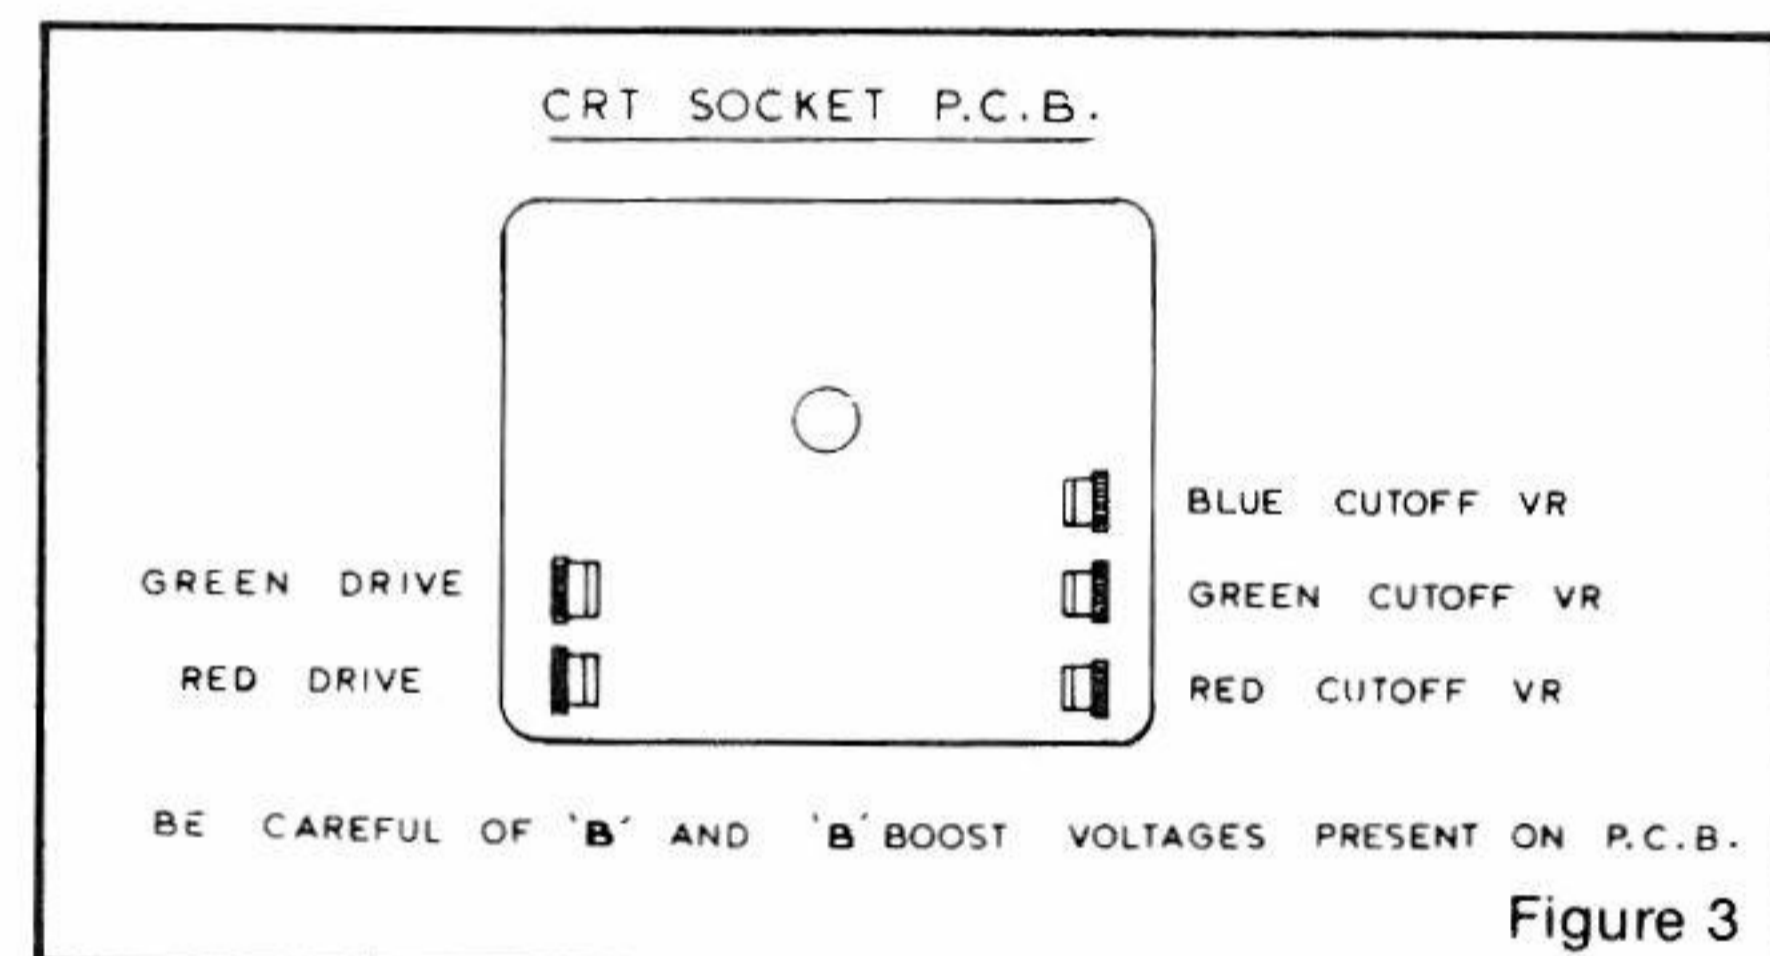

Figure 3
- 4.7 CRT cut off controls (See fig. 3)
- 4.8 Video drive controls (See fig. 3)
- 1.5 Turn off the green and blue fields and adjust setup controls to produce a red field. (See fig. 3)
Refer to figure 3. Do the following in subdued light: